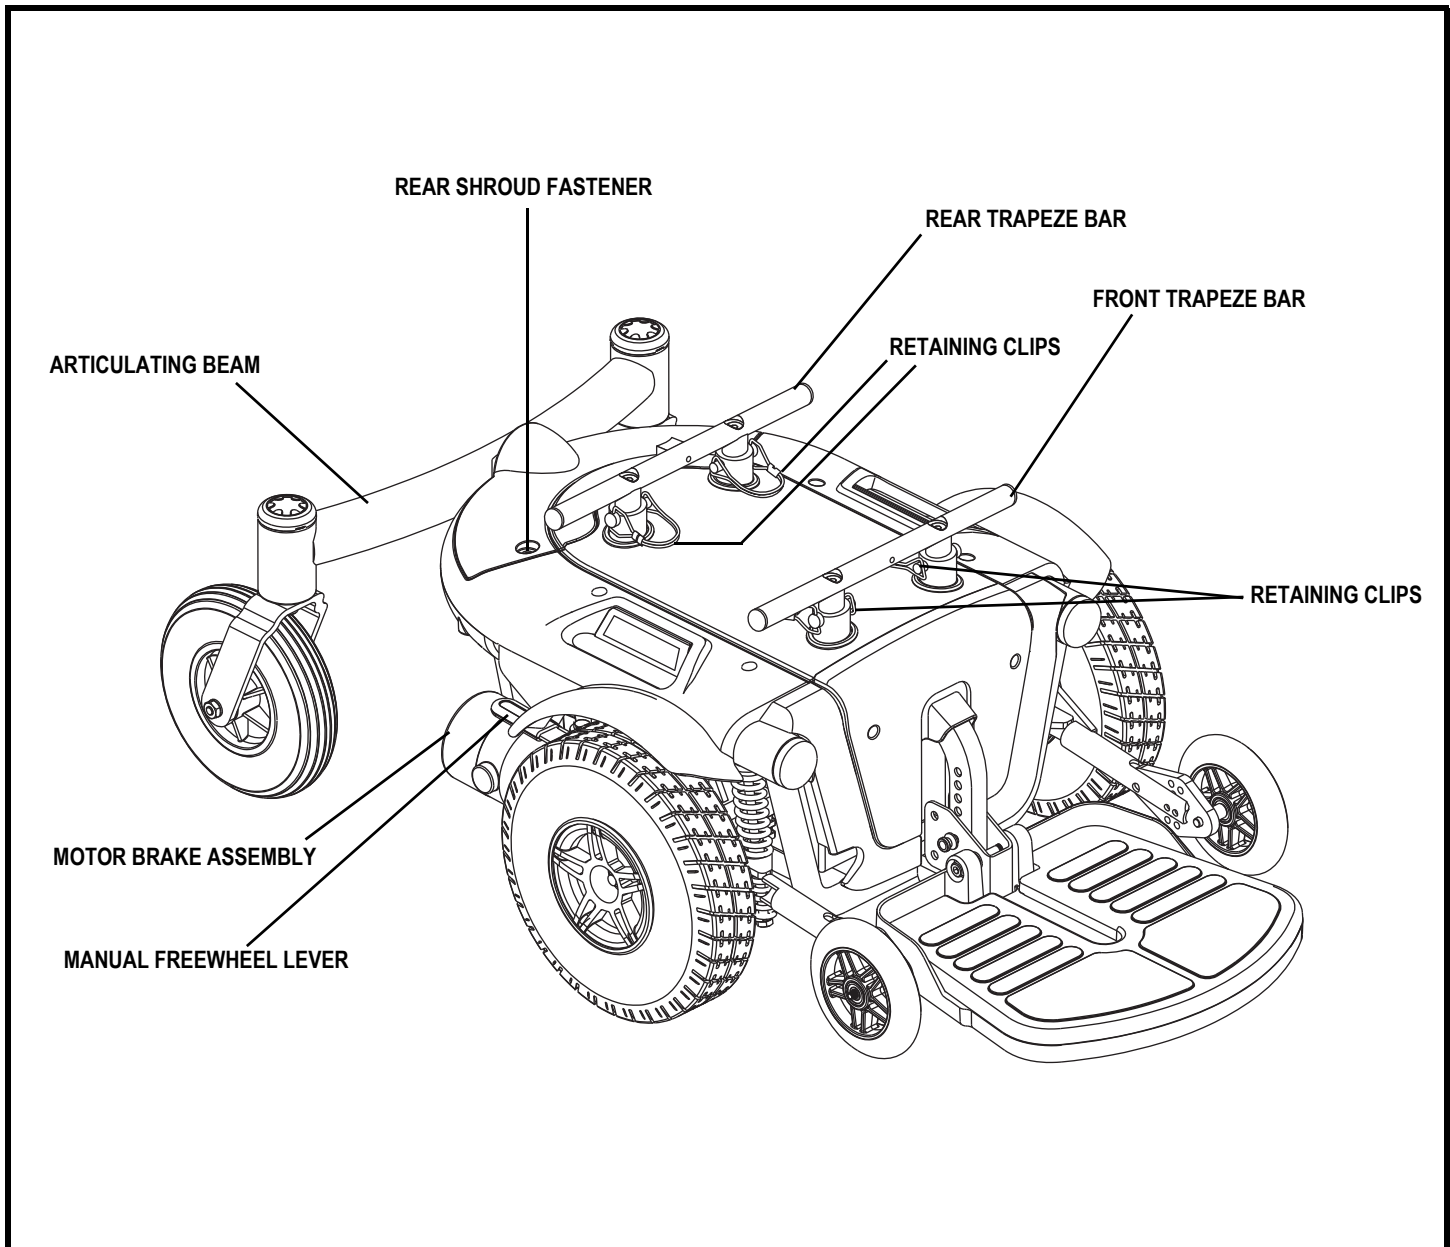

Figure 6. The Quantum 1103 Ultra Power Base
2. Loosen the rear shroud fasteners and remove the rear shroud. **See figure 6.**